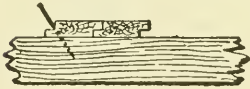

Fig. 176
62. Blind-nailing leaves no holes on the surface, as in floors of matched-boards. Each board is nailed slantingly just above the tongue (Fig. 176). This holds it down and draws it